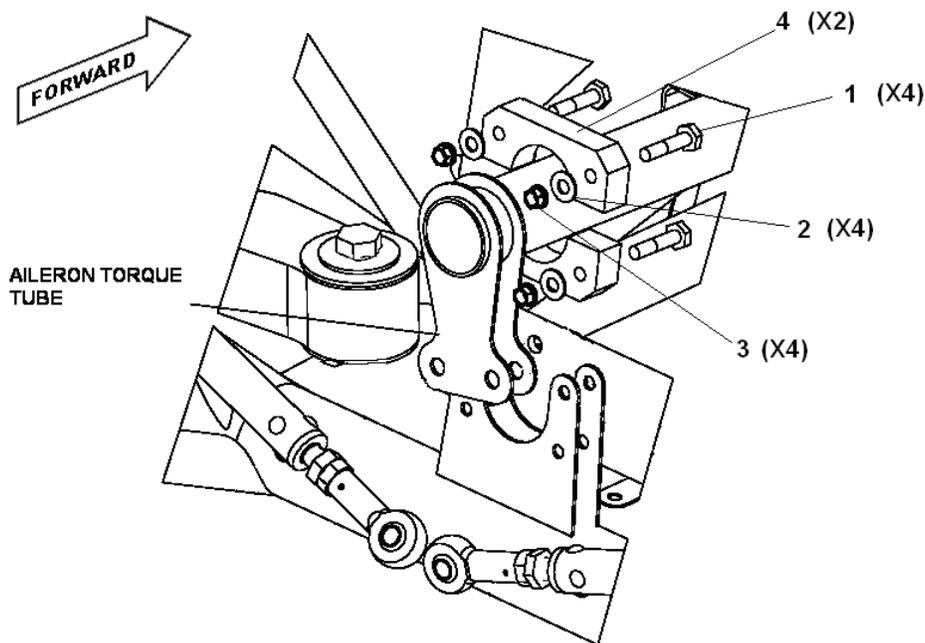

Figure 27-20 Aileron Torque Tube (Rear)
3. At rear of aileron torque tube, remove 4 nuts (3), 4 washers (2), and 4 bolts (1) from aileron torque tube bearing halves (4). Remove bearing halves. See Figure 27-20.
4. At rear of aileron torque tube, install bearing halves (4) using 4 bolts (1), 4 washers (2), and 4 nuts (3) (Figure 27-20).